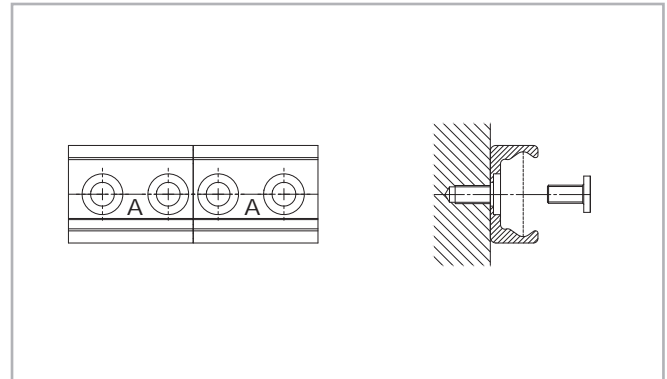

Fig. 117
- (1) Fix the individual rails on the mounting surface by tightening all screws except for each last one on the rail joint.
- (2) Install the end fixing screws without tightening them (see fig. 117).